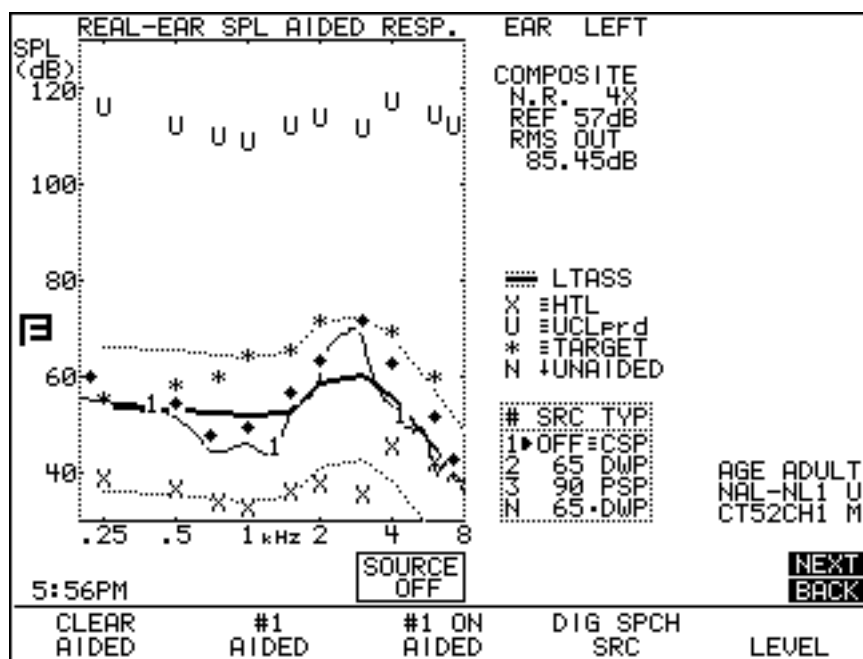

Figure 5.6.1—Visible Speech Testing
2. Instruct your patient's spouse speak to the client about 6 feet away (2 meters). It helps to have something for them to read. The screen will display the aid's response to this speech and how it relates to the displayed speech banana. If you chose the BARS setting in step 8, you will also see a succession of bars on the screen, indicating the maximum peaks of the speech. If you chose the AVERAGE setting, you will see a second curve composed of small diamonds indicating the long term average response over the time of the test. See Figure 5.6.1.